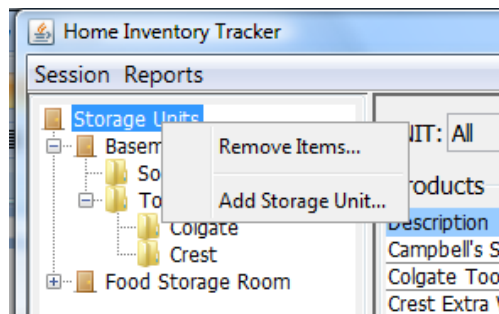
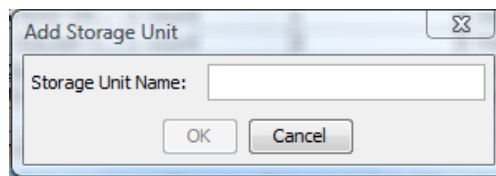

Figure 2 – Root Context Menu
Figure 9 - Add Storage Unit View
- 1) The Root Context Menu (Figure 2) is accessed by selecting and then right-clicking on the "Storage Units" root node in the Storage Unit / Product Group tree. This menu provides the following operations:
The user can add a new Storage Unit by selecting the “Add Storage Unit” option in the Root Context Menu (Figure 2). This menu option is always enabled. When this option is selected by the user, the Add Storage Unit View (Figure 9) is displayed.